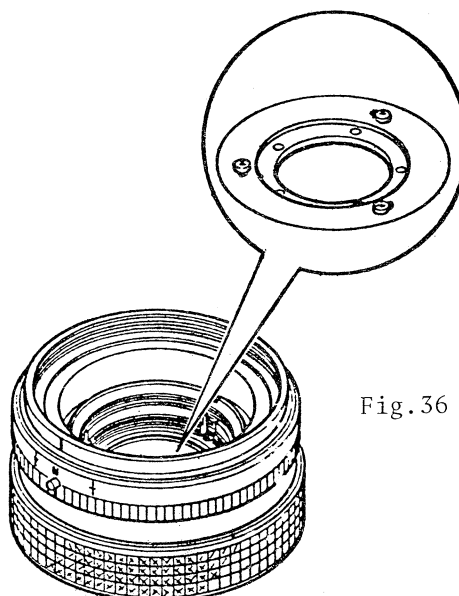

Fig.36
2. Loosen three screws 3PB1.4x2.2BNi as shown in Fig.36.